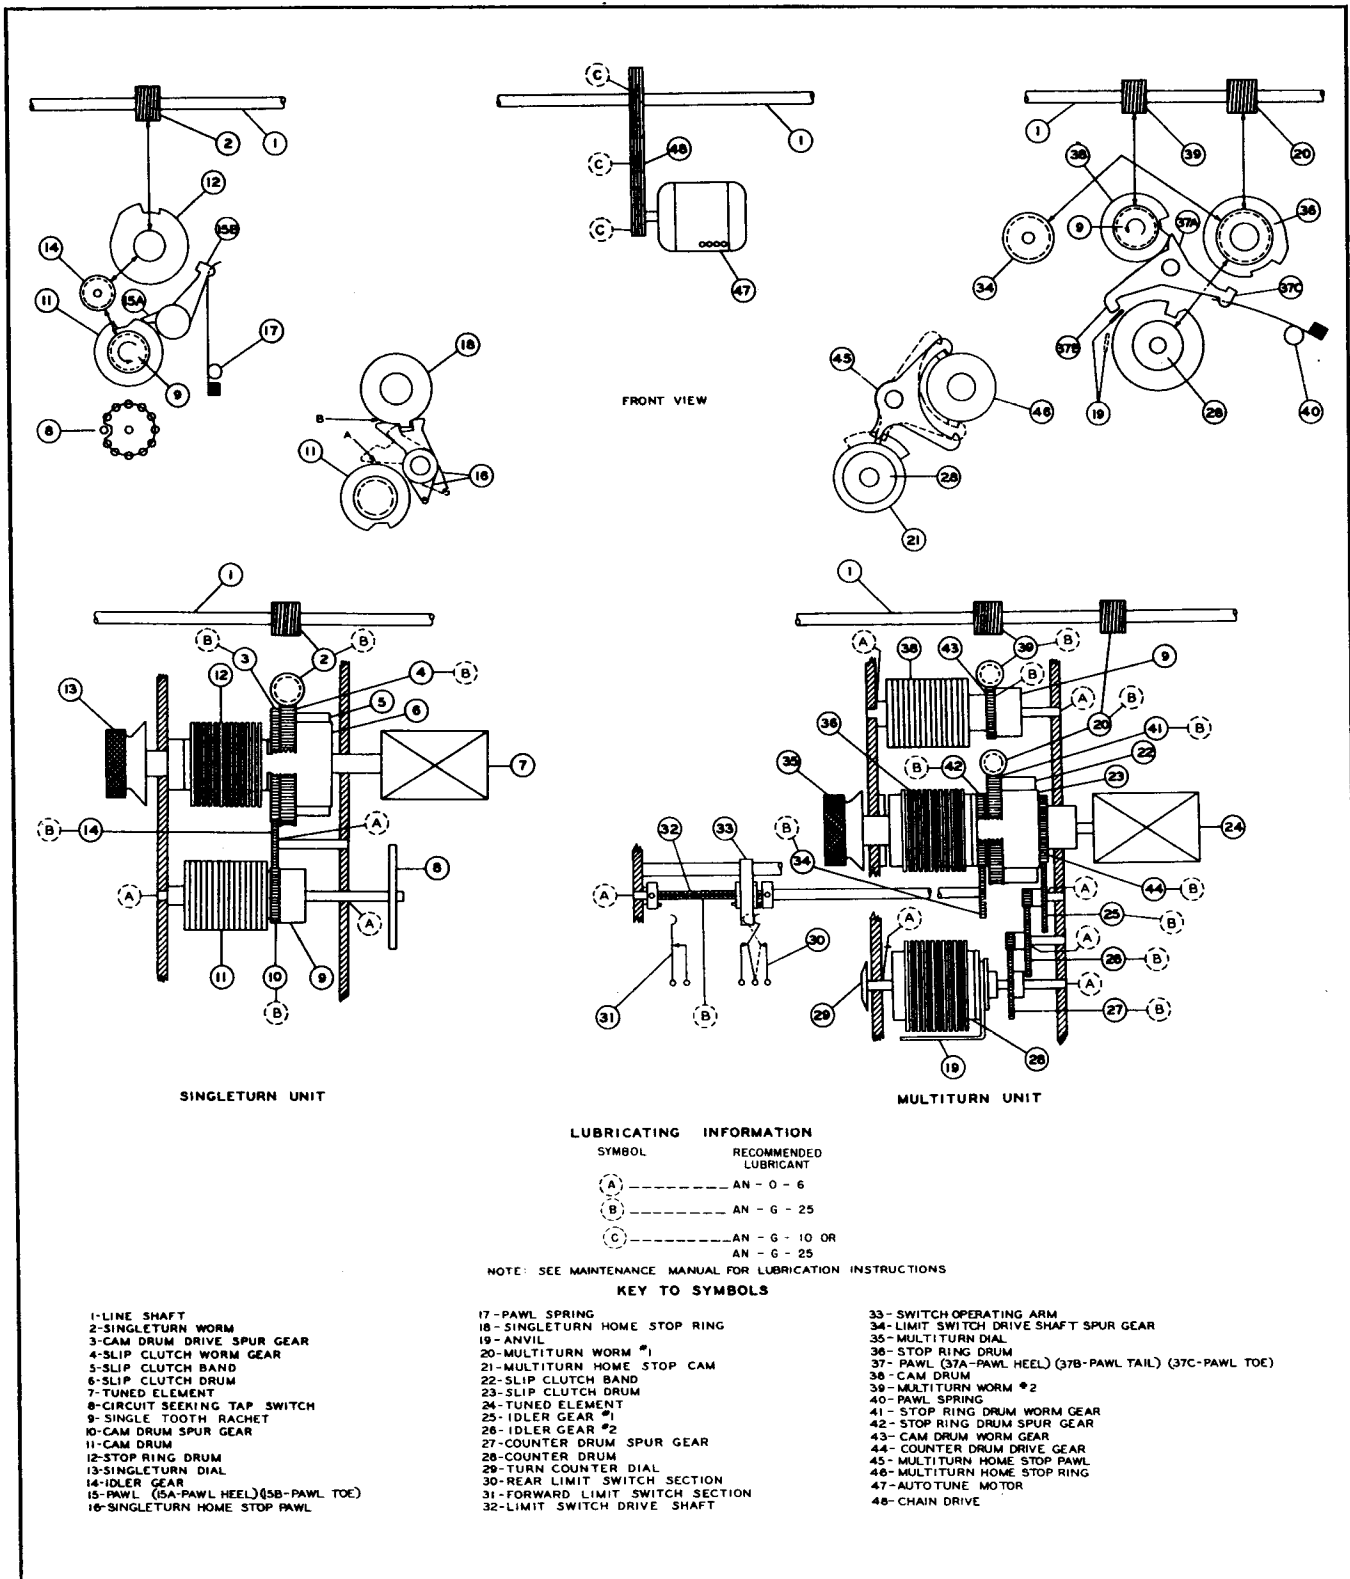
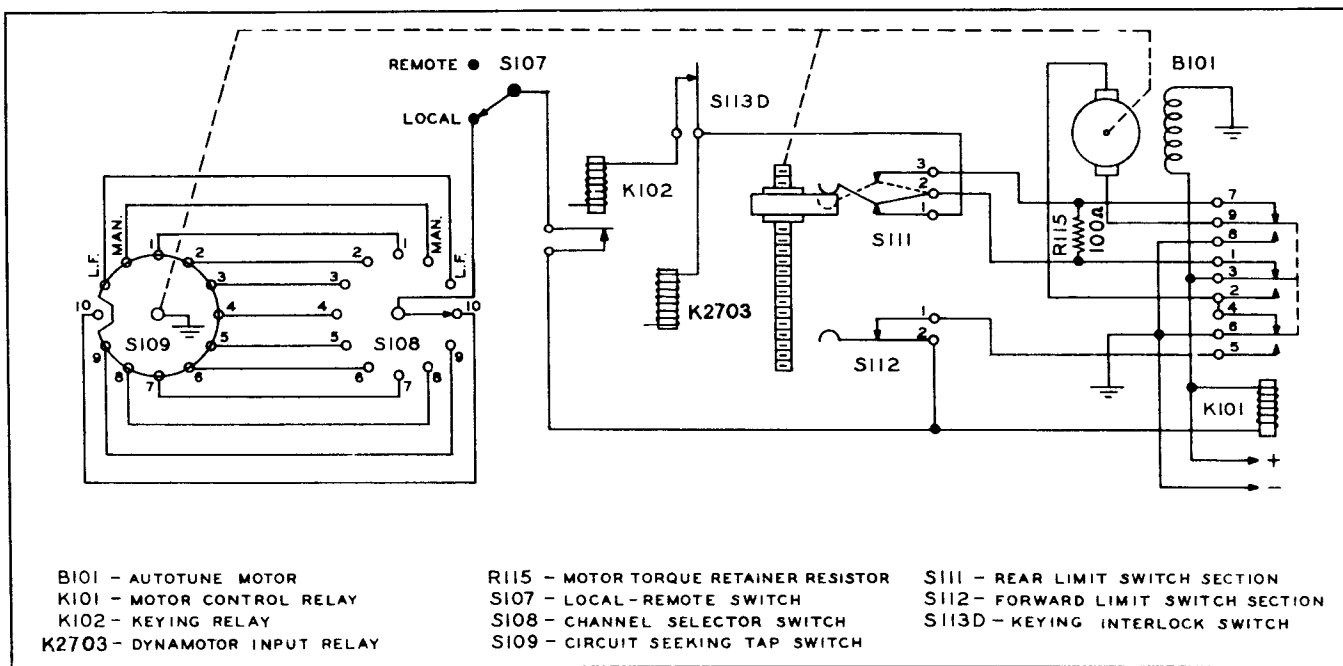

Figure 4-14. Autotune Mechanism — Mechanical Portion
Figure 4-20. Electrical Portion of Autotune System
(1) The positioning accuracy of the Autotune mechanism is of a very high order. Each setting is inherently independent of wear, backlash, alignment, supply voltage, etc. The accuracy of the settings is comparable to that of vernier manual controls. The parts are machined within close limits, and although operation is most precise, there are no delicate adjustments or fragile mechanisms. Permanently lubricated bearings are used in many places and the assembly is enclosed and protected from dust and corrosion.
(2) Some of the controls which are operated by the Autotune mechanism only require a maximum change in position of one revolution (360°) or less but the "Fine High Frequency Tuning Control B" may require as many as 20 revolutions to reach a particular setting. Thus, the Autotune system provides two basic types of mechanisms; one known as the "Singleturn Unit" and the other as the "Multiturn Unit." Singleturn Units are used to operate controls that make one turn or less to reach final setting. The Multiturn Unit is used to operate control B only, since that control may require up to 20 revolutions to reach final setting.
(3) IMPORTANT PARTS OF THE AUTOTUNE SYSTEM.—The names, descriptions, and functions performed by important parts of the Autotune mechanism are given in the following tabulation. Numbers that appear in parenthesis after the part names refer to the parts in figure 4-14.
b. ELECTRICAL CHARACTERISTICS.—The following electrical components are used in conjunction with the Autotune System as a source of motive power and for electrical control of the mechanical functions. Interconnection of these electrical parts is shown in figure 4-20.
(1) The drawings of the electrical and mechanical portions of the Autotune, figure 4-20 and figure 4-14, should be referred to in connection with the following description of the operational sequence. The drawings show the Autotune mechanism in the rest position at the completion of the operation cycle.
(2) The following sequence of operations, listed in order, represents the complete Autotune cycle: